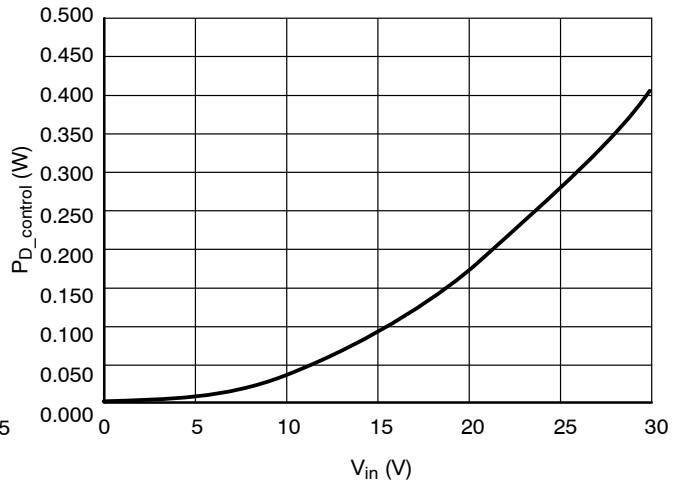

Figure 4. Internal Circuit Power Dissipation vs. Input Voltage
7. Establish Power Dissipation on the NUD4001 device's control circuit per Figure 4:
- a. $P_{D_control} =$ Figure 4, for 12 V input voltage